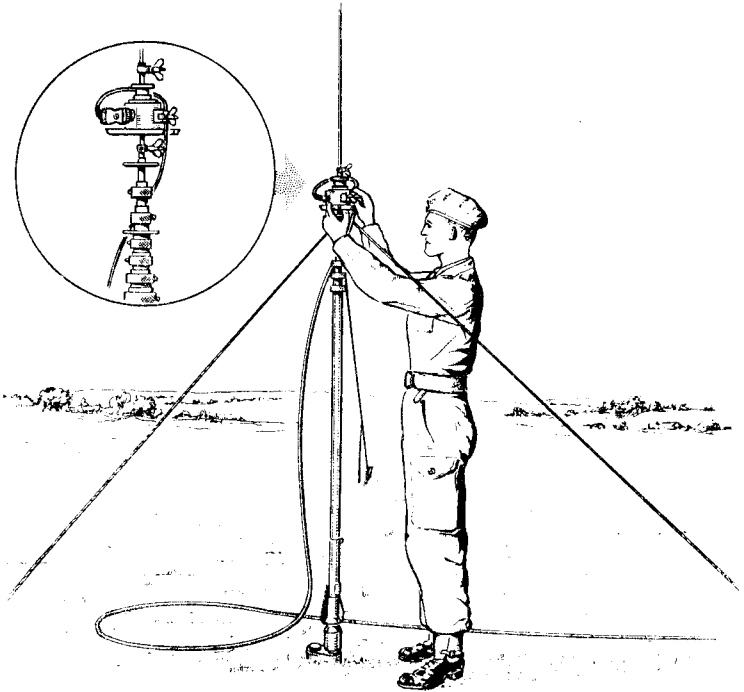

FIG. 4. MOUNTING THE AERIAL.
- 3.2 The assembled elevated aerial is mounted on the top mast section at ground level (see Fig. 4 and paragraph 3.3 below).
- 3.3 In the case of telescopic masts which are not self-supporting when in the lowered position, the three unused upper mast stays may be used to hold the fully telescoped mast upright (see Fig. 4). With the lowest mast section independently secured, the remainder of the mast and the attached elevated aerial can be raised and lowered by one man. This is particularly convenient when frequent changes in the length of the vertical element are necessary to comply with new frequency allocations. There are no stay plates on the upper end of the lowest mast section but the unused mast stay cords can be tied in place and the other ends taken out and fastened to the stay pegs.